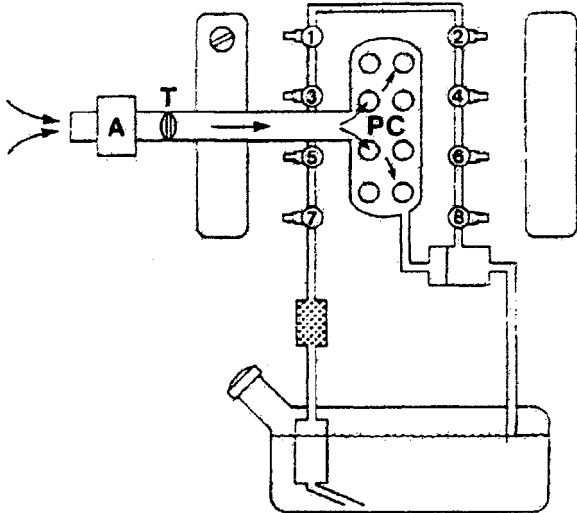

Fig.1.2 Air System
The driver's accelerator pedal operates a throttle butterfly (T), as seen in fig.1.2, located in the air intake tract. From there the air passes to a plenum chamber (PC) located centrally over the engine and from which the air is drawn through ram pipes into the inlet manifold itself.